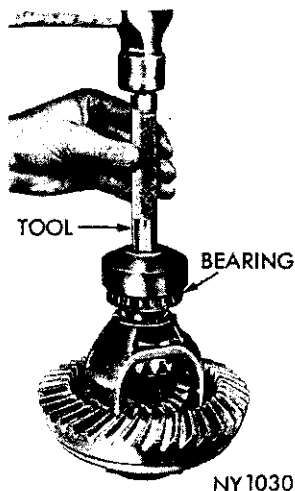

Fig. 16—Installing Differential Bearing Cone
(7) Tap drive gear against differential case flange with non-metallic mallet. Tighten bolts to 55 foot-pounds.
(8) Install differential bearing cones with Tool C-4107 (Fig. 16).